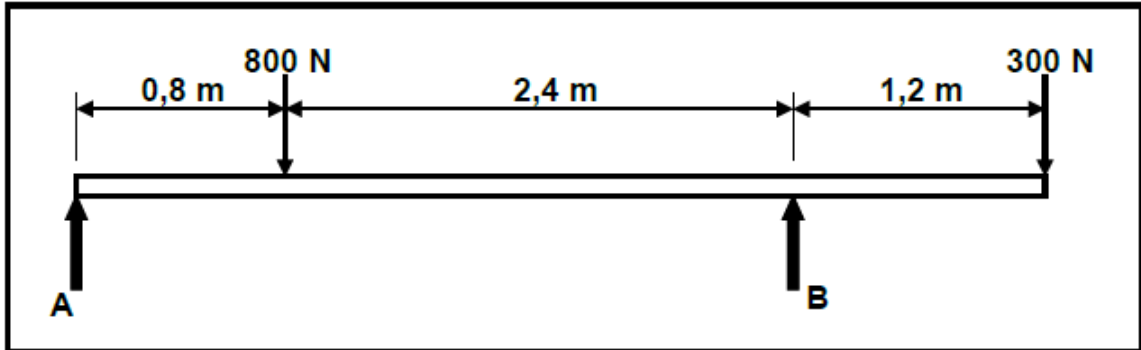

FIGURE 5.5
- 5.5 The diagram in FIGURE 5.5 below shows a beam supported by two vertical supports, A and B. Two vertical point loads of 800 N and 300 N are exerted onto the beam. Calculate the magnitude of the reactions in supports A and B.